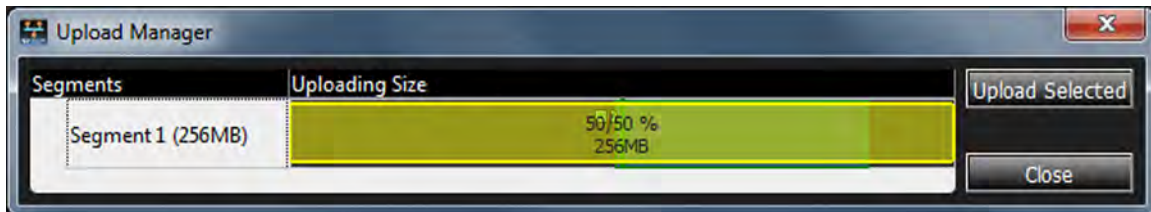

Figure 3.30: Upload Manager Dialog
1. Click on the text icon in the *Idle* window. The Upload Manager dialog box appears (Figure 3.30).